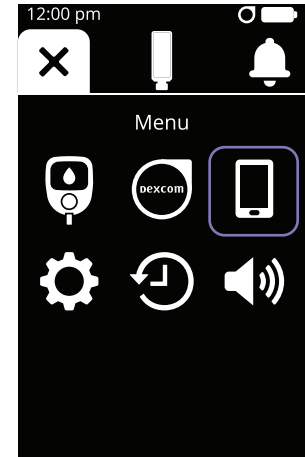

Figure 94
- Tap the **Mobile** icon (see Figure 94).